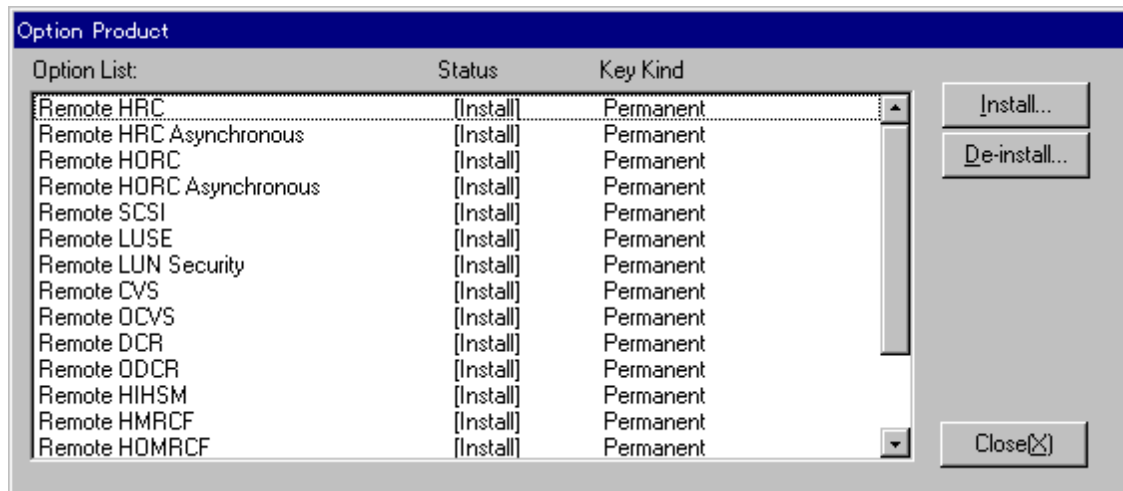
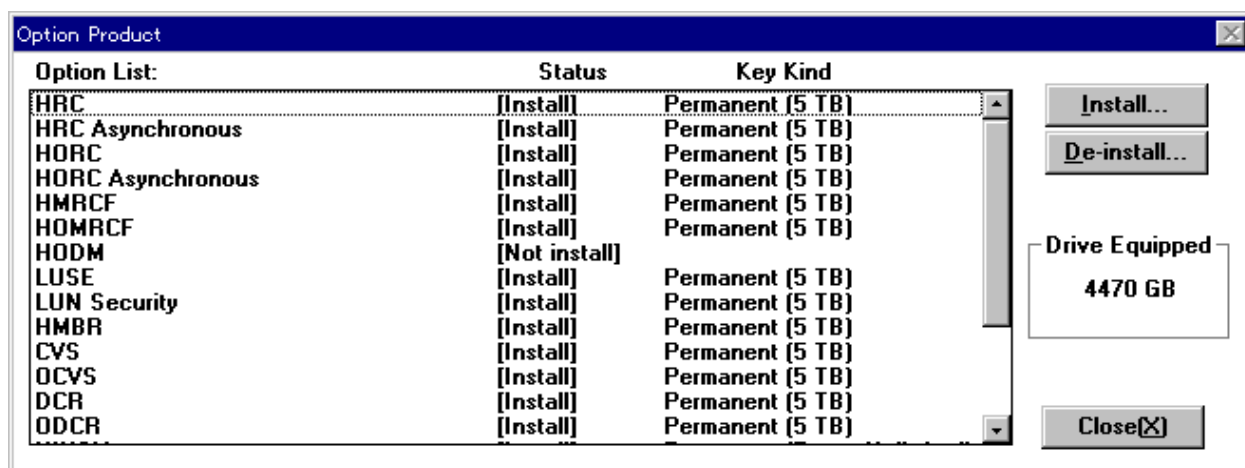

Figure 2.1 RMCMAIN Option Product Panel
Figure 2.2 DKCMAIN Option Product Panel
The RMCMAIN Option Product panel (see Figure 2.1) and the DKCMAIN Option Product panel (see Figure 2.2) display the RMCMAIN and DKCMAIN options and their current installation status (**Install** or **Not install**).
2. On the Remote Console Main panel, select **Option...** to open the RMCMAIN Option Product panel (refer to Figure 2.1). This panel shows the current installation status of the RMCMAIN options.
9. On the Connection Control panel, select the first subsystem on which you want to enable these options, and then select the **Install...** button to open the DKCMAIN Option Product panel (refer to Figure 2.2).
2. On the Remote Console Main panel, select **Option...** to open the RMCMAIN Option Product panel (refer to Figure 2.1).